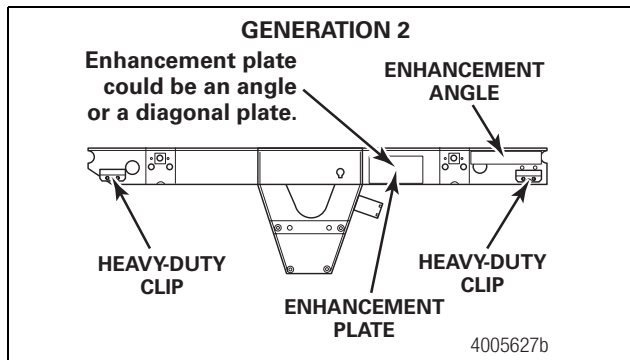
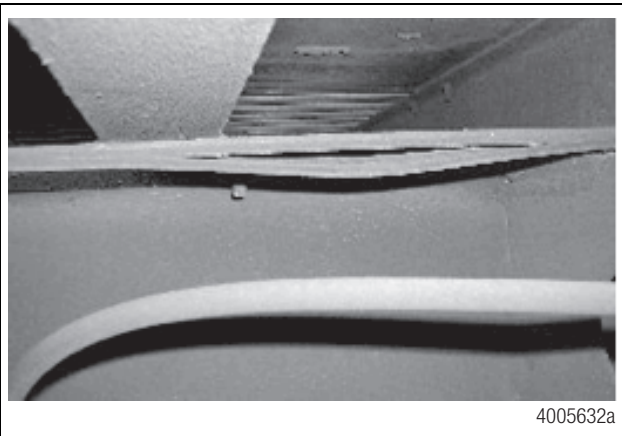

Figure 62
Figure 63
2. Identify the slider. Figure 62 and Figure 63.